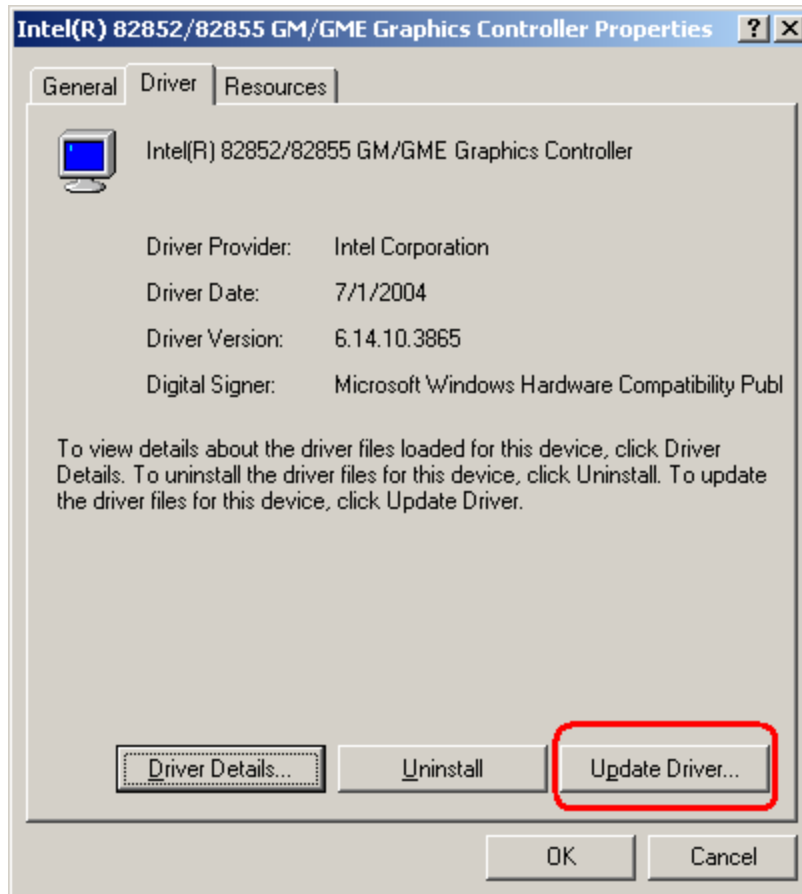

Figure 6-8: Update Driver
- Step 6:** From the **Driver** tab of the **Properties** window, click **Update Driver (Figure 6-8)** or, click **Reinstall Driver** if **Update Driver** is not seen.